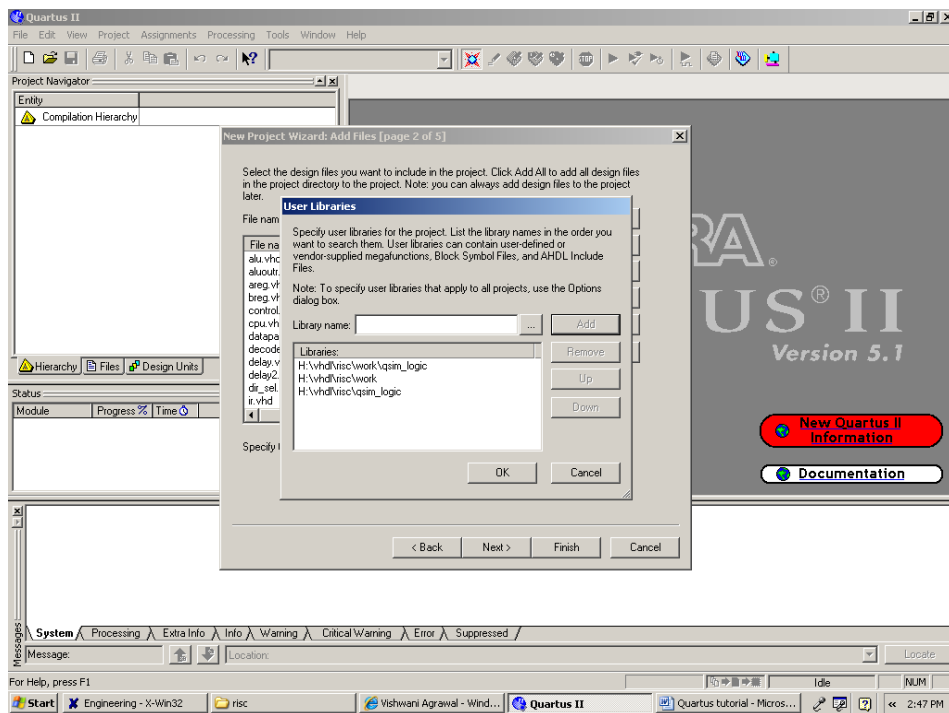
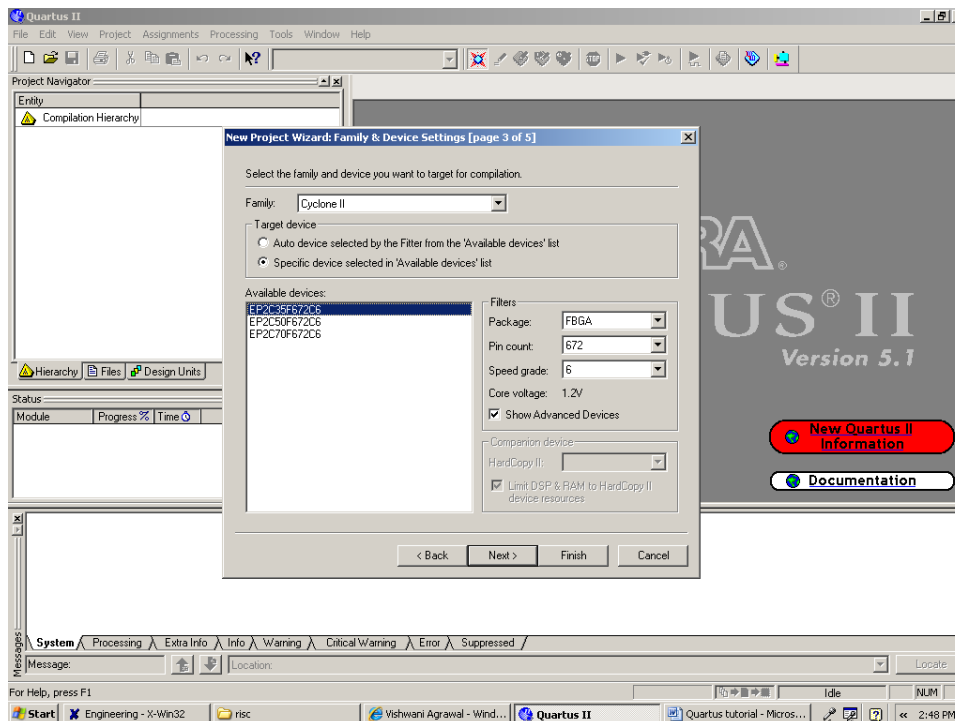

Fig. 6
Fig. 7
4) Add all the files that must be included in your project except for the packages and libraries. After that click on the User Libraries icon shown on this window. This will get you to Figure 6.
5) Add all the libraries and packages you have used in your project here. IEEE libraries and packages do not need to be added. Click Ok and upon returning to window in Figure 6 click Next to get to the window as shown in Figure 7.